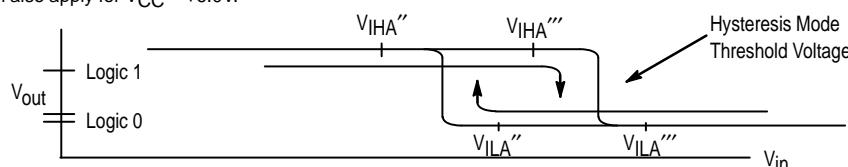

Figure 1. Hysteresis Mode Threshold Voltage
- Output latched to logic high state prior to test. V_{IHA'}, V_{ILA'} are standard logic 1 and logic 0 MTTL threshold voltages. V_{IHA''}, V_{ILA''}, V_{IHA'''} and V_{ILA'''} are logic 1 and logic 0 threshold voltages in the hysteresis mode as shown in Figure 1 on page 3-2.
2. Output latched to logic high state prior to test. V_{IHA'}, V_{ILA'} are standard logic 1 and logic 0 MTTL threshold voltages. V_{IHA''}, V_{ILA''}, V_{IHA'''} and V_{ILA'''} are logic 1 and logic 0 threshold voltages in the hysteresis mode as shown in Figure 1 on page 3-2.